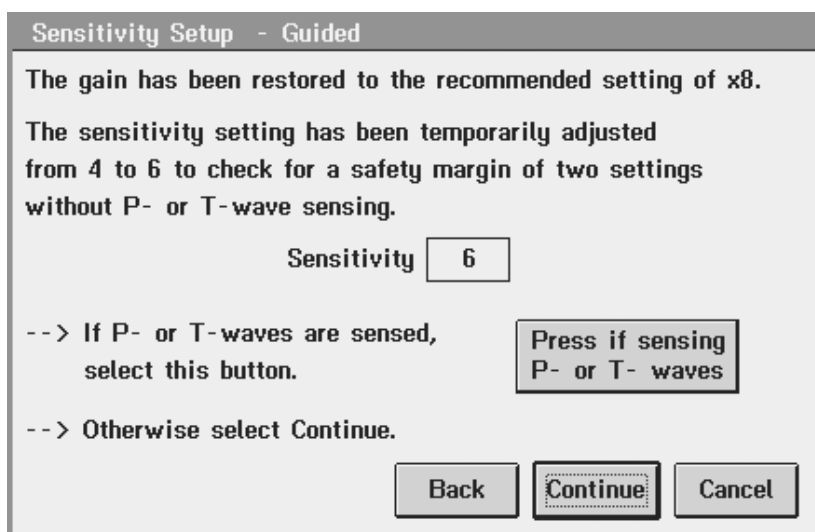

Figure 10. Sensitivity Setup - Guided (Margin Test)
2. From the “Sensitivity Setup - Guided” screen, the programmer indicates that it has restored the recommended gain setting and has temporarily adjusted the sensitivity setting to check for a safety margin of two sensitivity settings (see Figure 10).